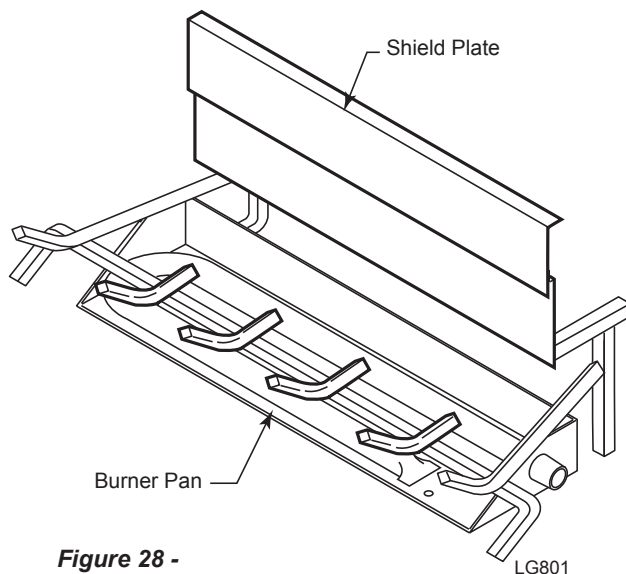

Figure 28 - Slide Shield Plate Behind Burner Pan
- 1. Slide shield plate down back of burner pan. *Figure 28*